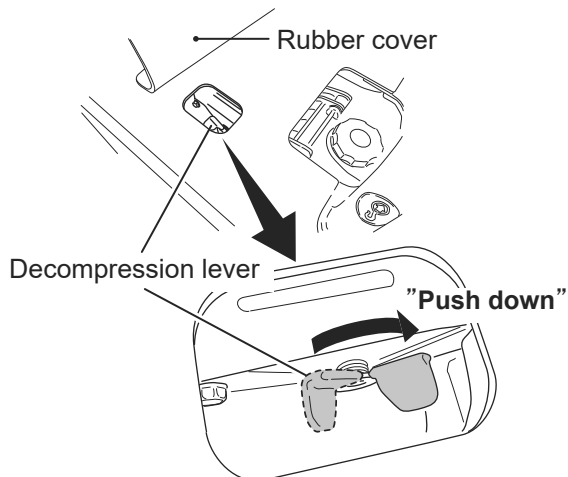

Fig.17
- 4 Push the decompression lever down and release it. The decompression lever will automatically return to the original position when the engine starts. (Fig.17)